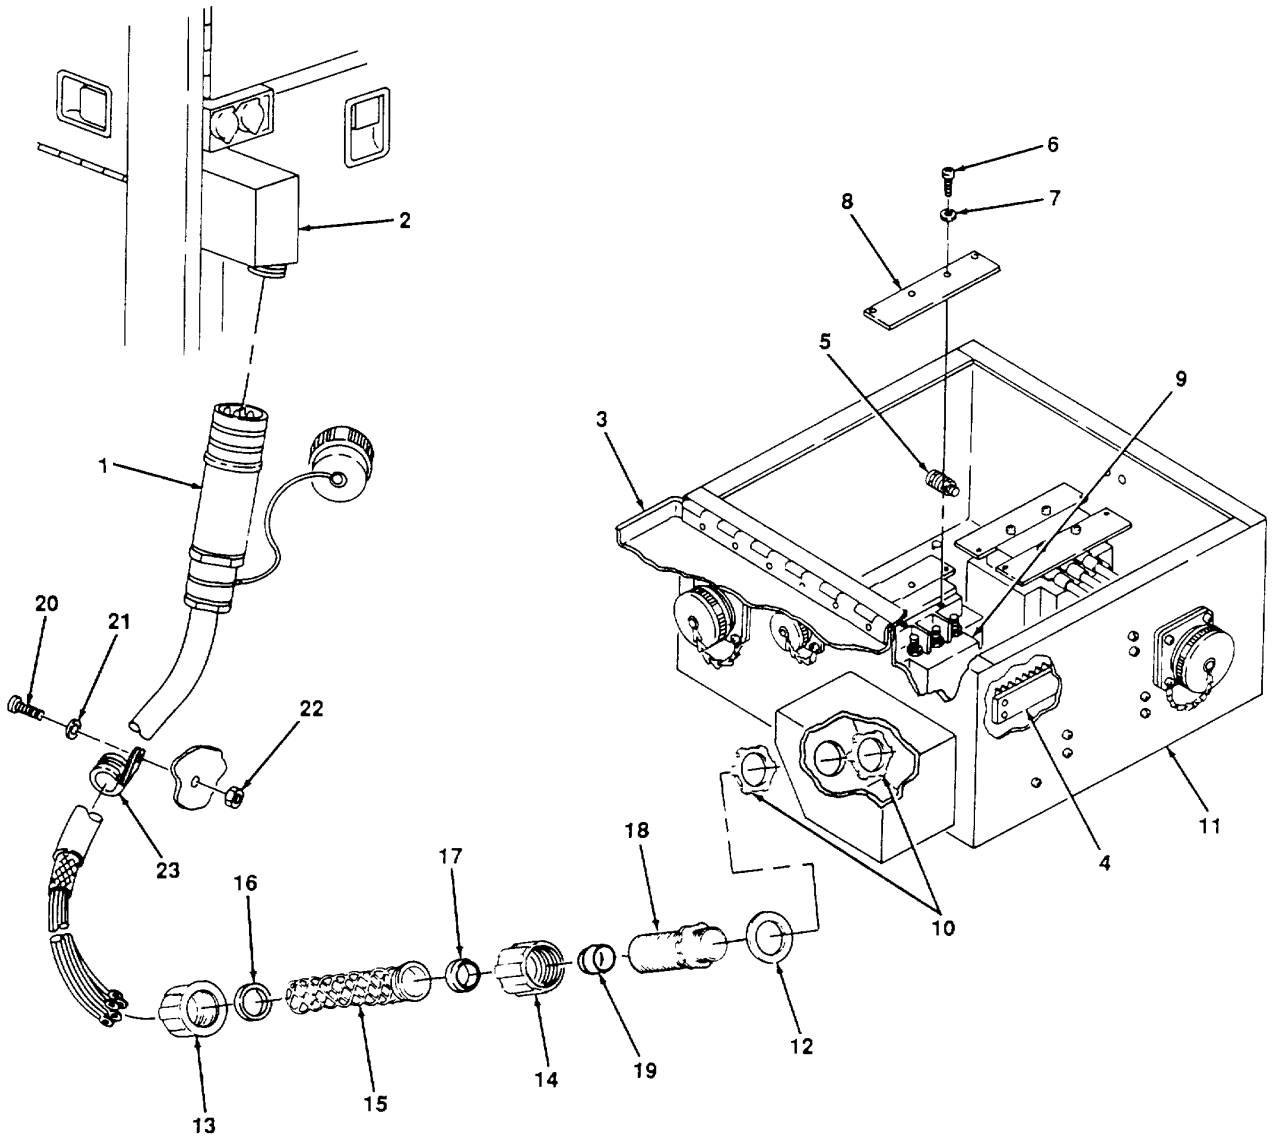

Figure 4-8. P3 Power/Control Cable Replacement.
4-22. **P3 Power/Control Cable Replacement.** (See figure 4-8).
- (1) Disconnect P3 connector (1, figure 4-8) from J3 connector on adapter plate assembly (2).
- (2) Release latch and open cover (3) on PDU.
- (3) Disconnect P3 cable wires from terminal board TB1 (4) contacts 1, 13, 16 and 17, and from ground stud E1 (5).
- (4) Remove two screws (6), two washers (7) and K1 contactor cover (8). Tag and disconnect P3 cable wires from K1 contactor (9).
- (5) Loosen locknuts (10) on inside and outside of PDU housing (11) and pull cable out of housing.
- (6) Remove EMI gasket (12).
- (7) Disconnect EMI sealing grip gland nut (13) from sealing grip interconnector (14), and slide gland nut above cable grip (15).
- (8) Collapse cable grip (15) and slide cable grip away from interconnector (14). Slide gland washer (16) and rubber bushing (17) away from interconnector.
- (9) Disconnect EMI sealing grip body (18) from interconnector (14) Remove body (18), nylon bushing (19), interconnector (14), rubber bushing (17), gland washer (16), cable grip (15) and gland nut (13) from cable.
- (10) Remove three screws (20), three flat washers (21), three self-locking nuts (22) and three loop clamps (23) mounting cable to trailer frame. Remove loop clamps from cable.